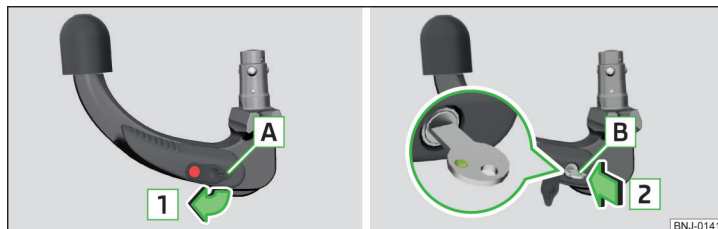

Fig. 243 Remove cap from the lock / insert key into the lock
- › Remove the cover from the lock in the direction of the arrow » Fig. 243.